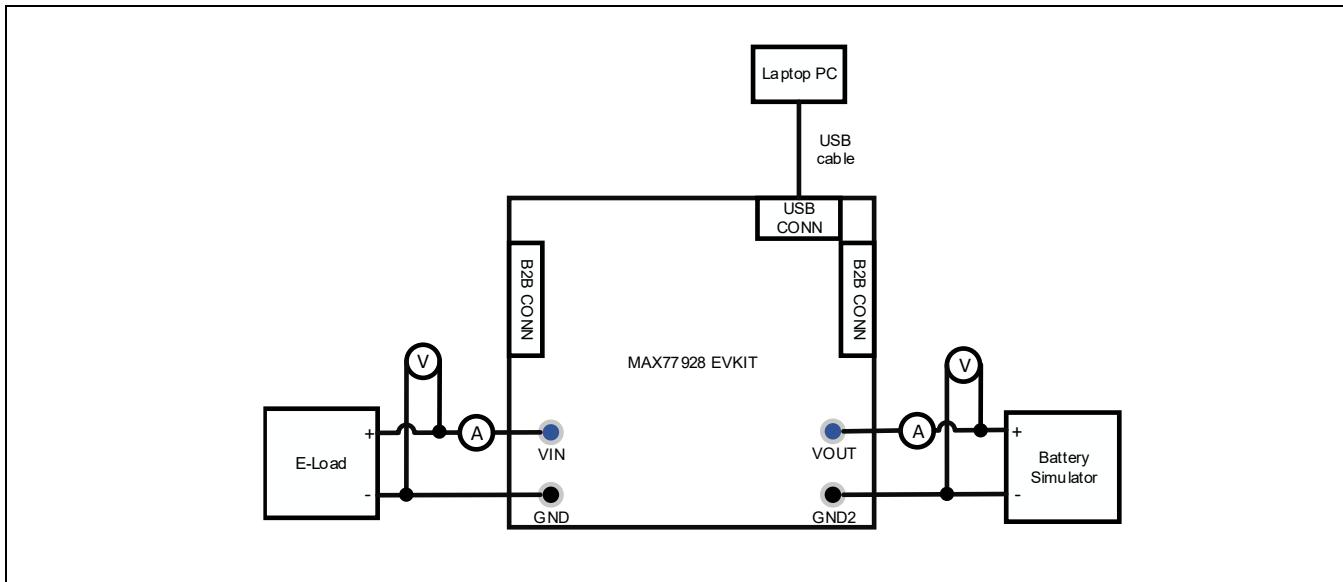

Figure 3. MAX77928 EV Kit Board Connections for Reverse Mode
A typical bench setup for the MAX77928 EV kit is shown in Figure 2 and Figure 3.
A typical bench setup for the MAX77928 EV Kit is shown in Figure 2 and Figure 3.
9. Connect a 1-cell Li-Ion battery or simulated battery between V_{OUT} and GND2. If a battery simulator is used, adjust the voltage and current limits of the battery simulator to ensure the voltage of V_{OUT} does not exceed the limitation. The connection diagram is shown in Figure 3. The output of the battery simulator is off.